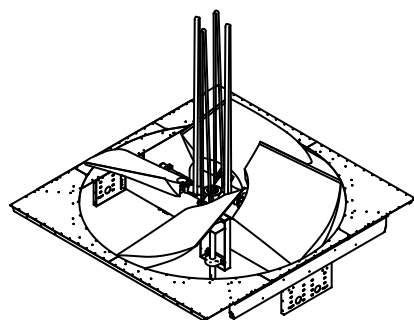

Figure 28. Fan Positioning
5. Position the fan over the top of the keyed fan shaft (**Figure 28**).